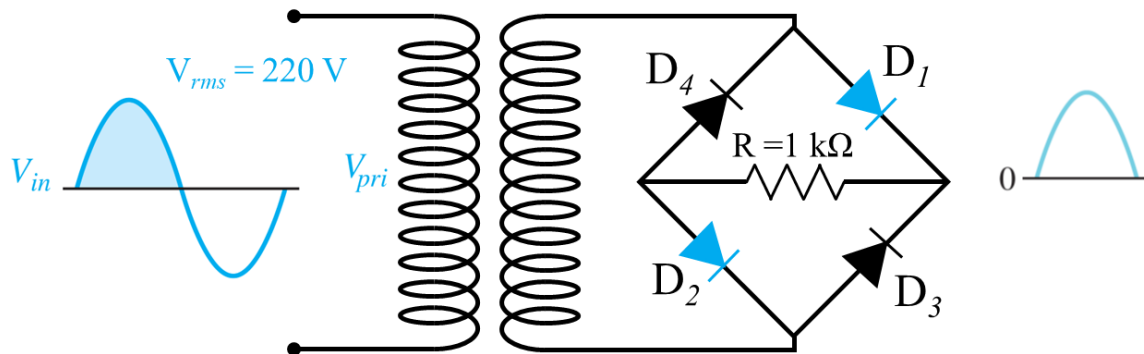

Figure 1: During positive half-cycles, D_1 and D_2 are forward-biased, and D_3 and D_4 are reverse-biased
The circuit of a full wave bridge rectifier uses four diodes D_1 , D_2 , D_3 and D_4 connected as shown in Fig. 1. During the positive half cycle of secondary voltage, the diodes D_1 and D_2 are forward-biased, and D_3 and D_4 are reverse-biased. Therefore, the diodes D_1 and D_2 conduct, and current flow through load resistor R_L .
1. Connect the circuit as shown in Fig. 1 using a standard transformer, four diodes, a $1k\Omega$ resistor (R_L)